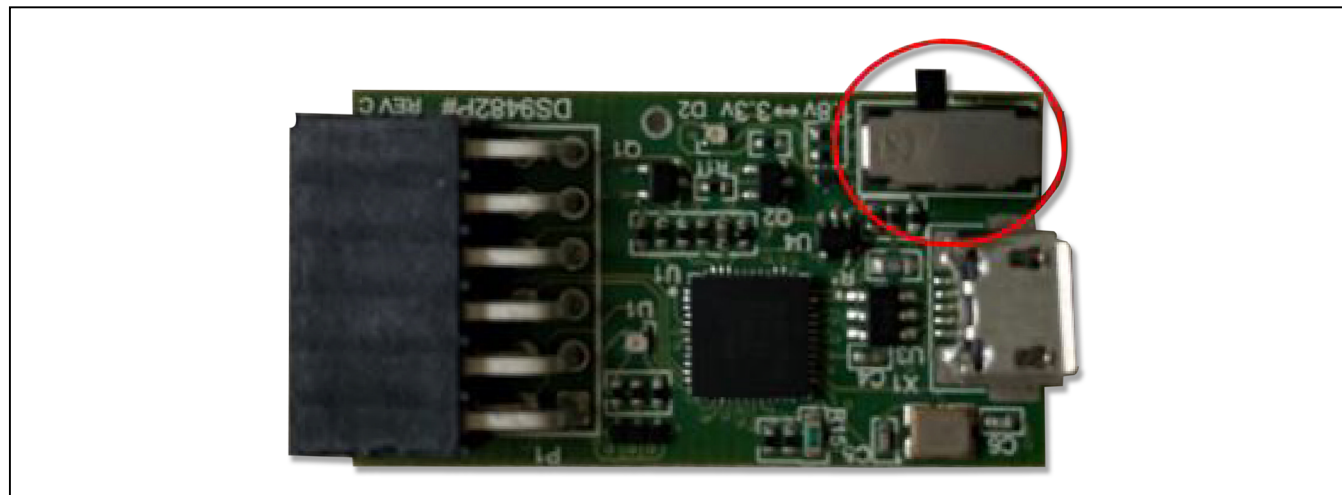

Figure 9. Set DS9482P# to 3.3V
- Set the DS9482P# switch to 3.3V as shown in Figure 9.